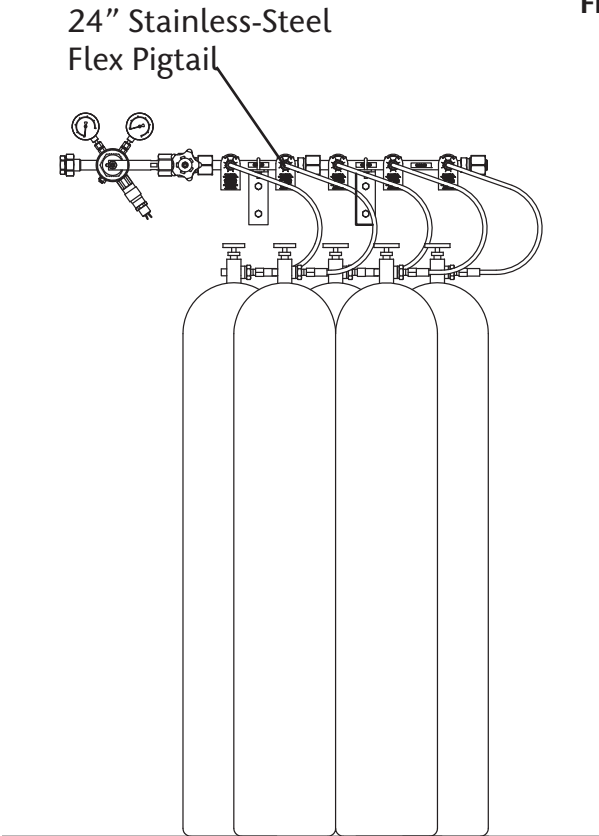

Figure 13
All high-pressure reserve header assemblies other than oxygen utilize 24" length flexible stainless-steel braided pigtails. Figure 13 illustrates a typical 5 cylinder high-pressure reserve header assembly utilizing flexible pigtails.
3. Position gas cylinders as shown in Figures 13 and 14. Secure each cylinder to wall or floor stand with chains or straps.